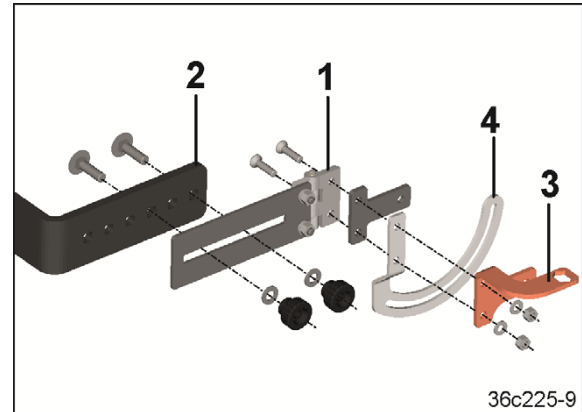

Fig. 114
4. Bolt the middle part (Fig. 114/1) with the top link bracket (Fig. 114/2), section (Fig. 114/3) and guide (Fig. 114/4) for the magnets.